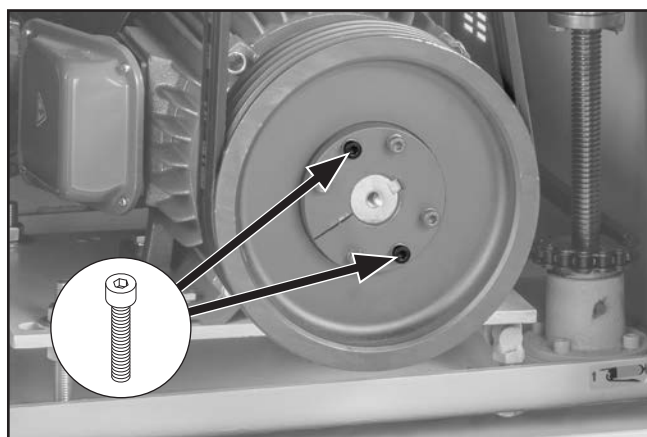

Figure 81. Cap screws installed in outward adjustment holes.
3. Thread (2) M8-1.25 x 25 cap screws into open holes in motor pulley (see **Figure 81**), then tighten installed cap screws equally to push motor pulley away from motor.